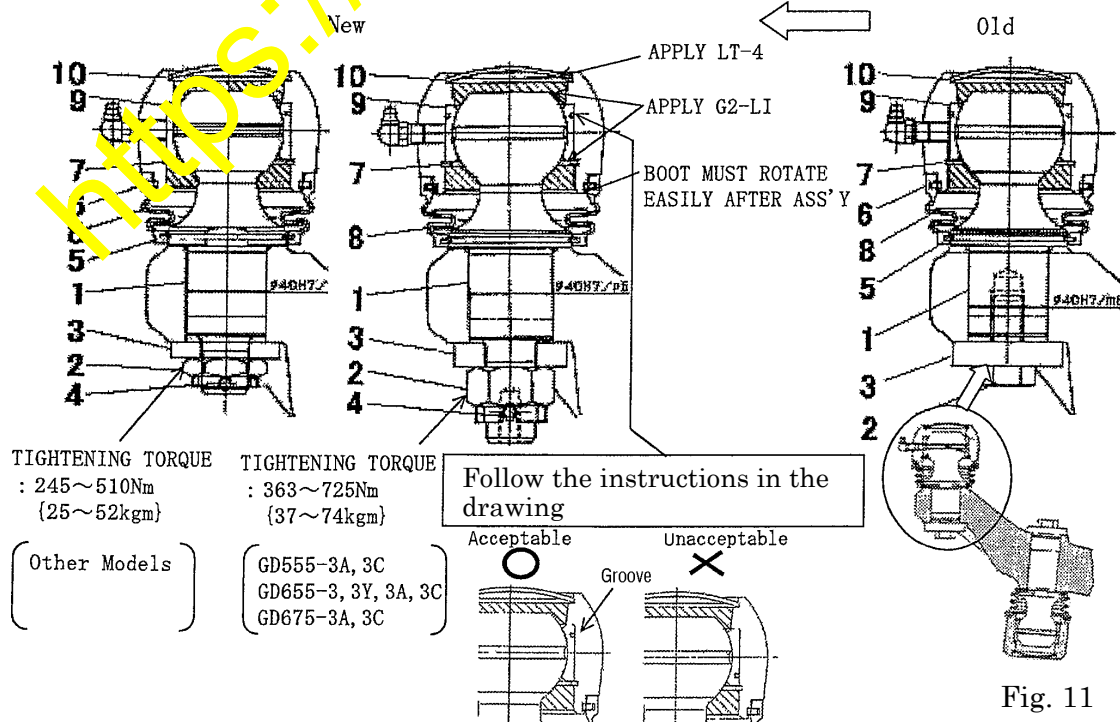

Fig. 11
Remove the current type parts No. 1 thru No. 10 (excluding No. 4) shown in Fig. 11.
Regarding the installation procedure and precautions, refer to the drawing shown below (Fig. 11) and Section 2-2 (3).